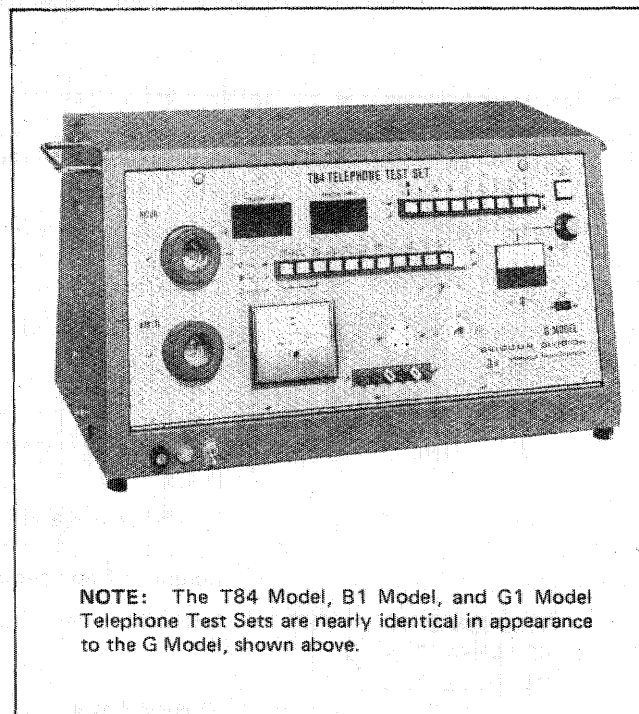

Fig. 1. T84 G Model Telephone Test Set
3.03 The T84 B Model Telephone Test Set (Part No. 3790-9100) is identical in appearance and function to the G Model Test Set shown in Fig. 1, with the exception that the B Model unit does not provide Tuned Ringer Test capability. The B Model unit provides the capability for conducting all tests listed in paragraph 3.02 (items 1 through 14), and in addition provides a Tone Dial Test. This test verifies that each digit depressed on a tone dialing telephone results in the correct frequency and output voltage. *NOTE:* This Tone Dial Test is also provided by the T84 G Model Test Set, as well as Tuned Ringer Test capability.
3.05 The T84 G Model Telephone Test Set (Part No. 3790-9000) is shown in Fig. 1. This test set performs all tests listed in paragraph 3.02 (items 1 through 14), and in addition provides capability for Tuned Ringer Tests, and Tone Dial Tests (test set provides a direct digital readout of tone dial frequencies and output voltage). The T84 G Model provides the following Tuned Ringer Tests: